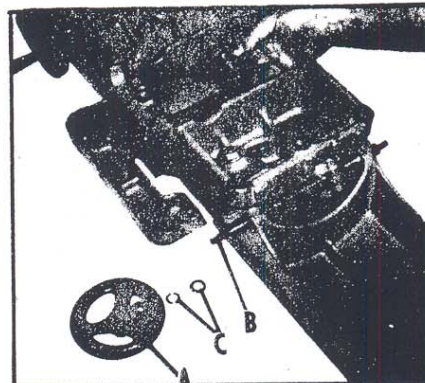

Fig. 3
4. Fig. 3 illustrates the pivot pin (D), fiber washer and steel washer (C), and handwheel (A) removed from the shaft.